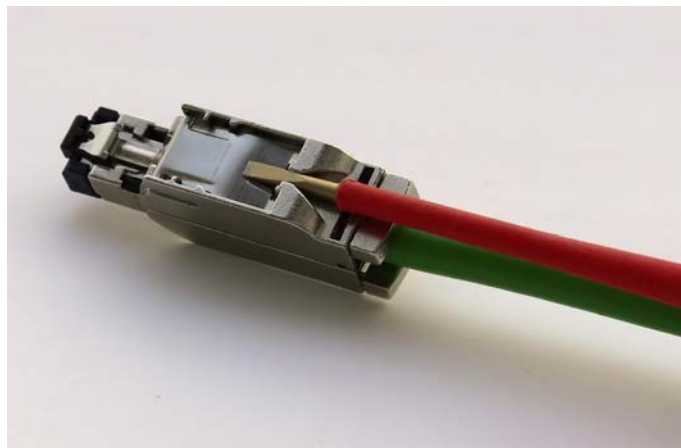

Figure 4-6 Releasing the catch of the RJ-45 Plug
1. First disconnect all connected cables. See Figure 4-6